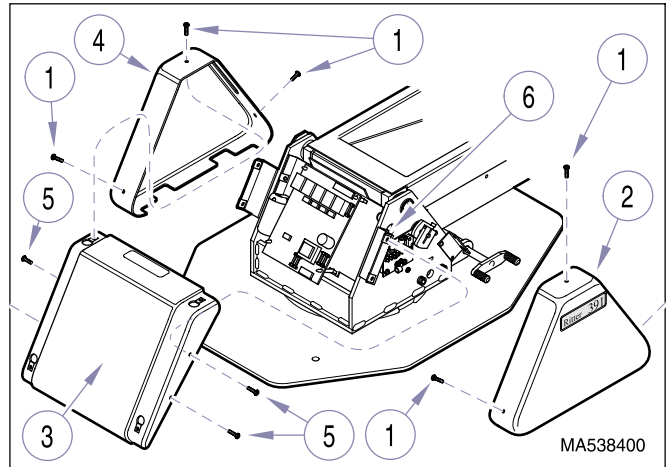
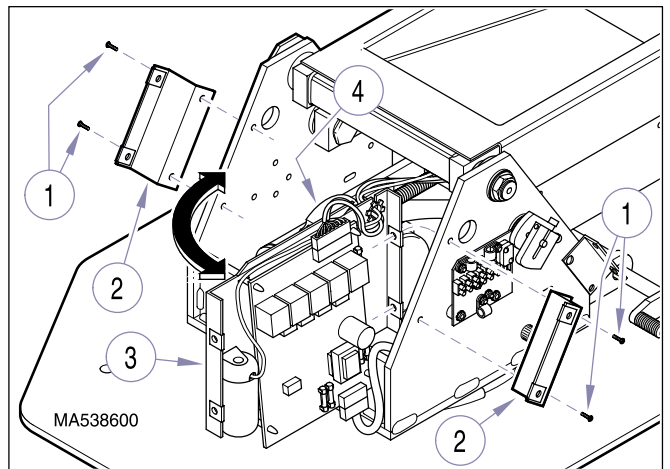
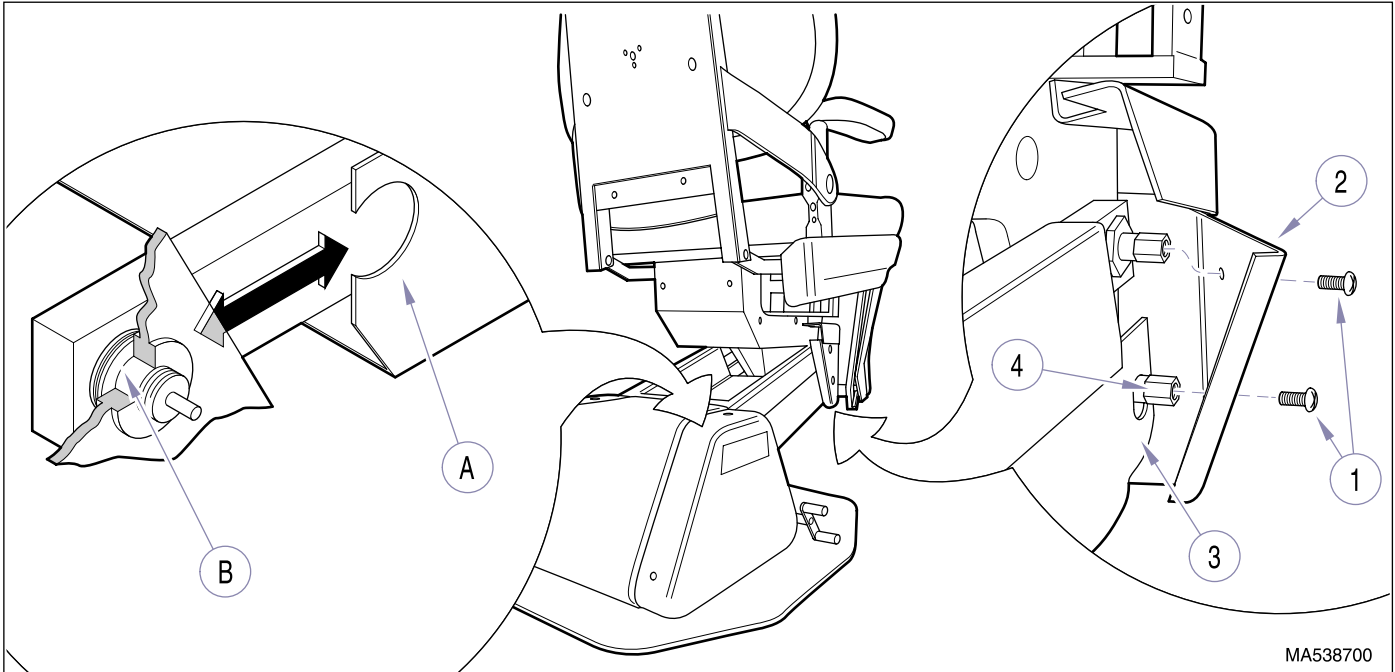
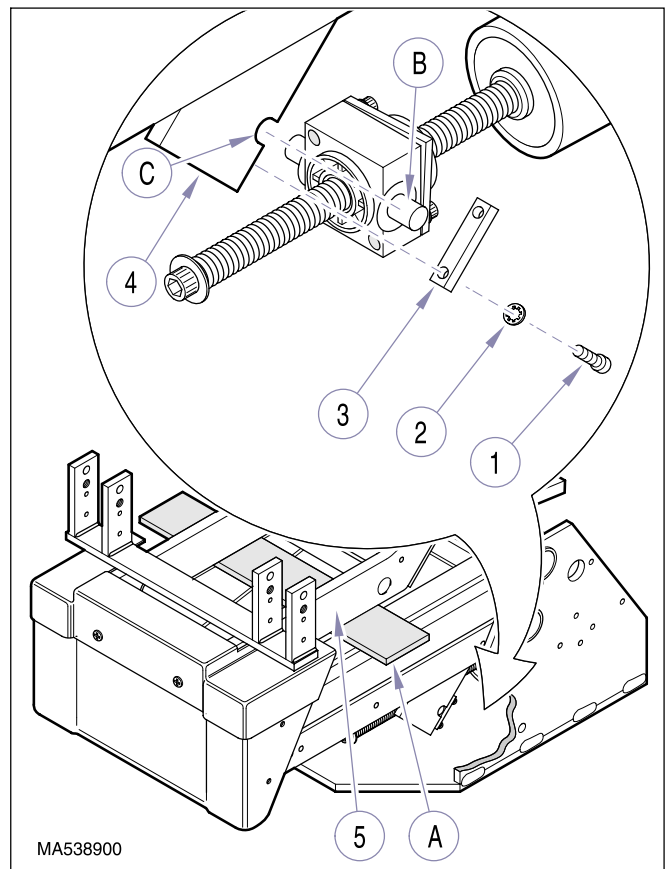

Figure 4-3. Base Covers Removal / Installation
Figure 4-4. Base Motor Access
Figure 4-5. Lift Arms Covers Removal / Installation
Figure 4-6. Base Motor Trunnion Removal / Installation
- (1) Unplug chair power cord from wall outlet receptacle.
- (2) Remove three screws (1, Figure 4-3) and R.H. base cover (2) from center base cover (3).
- (3) Remove three screws (1) and L.H. base cover (4) from center base cover (3).
- (4) Remove four screws (5) and center base cover (3) from two cover mounting brackets (6).
- (5) Remove four screws (1, Figure 4-4) and two cover mounting brackets (2) from mounting plate (3).
- (7) Remove four screws (1, Figure 4-5); two from each side of seat cover bottom (2).
- (8) Pull outward on one corner of seat cover bottom (2); then pull outward on corner of bottom lift arm cover (3) until it clears standoff (4). Repeat step for other corner and remove bottom lift arm cover (3) from chair.
(9) If base motor is operable:
- c. Remove four screws (1, Figure 4-6), lock-washers (2), and trunnion retainer plate (3) from lift arms assembly (4).
- b. Remove four screws (1, Figure 4-6), lock-washers (2), and trunnion retainer plate (3) from lift arms assembly (4).
- (7) Raise BASE UP function up while guiding trunnion arms (B, Figure 4-6) into trunnion slots (C). Make sure trunnion arms are fully seated in trunnion slots, before proceeding to the next step.
- (8) Raise BASE UP function all the way up and remove steel bar (A) or other type of supports.
- (9) Install trunnion retainer plate (3) on lift arms assembly (4) and secure with four lockwashers (2) and screws (1).
- (10) Pull outward on one corner of seat cover bottom cover (2, Figure 4-5); then install bottom lift arm cover (3) on standoff (4), making sure cut-out (A) is mounted on lift arms joint (B). Repeat step for other corner of bottom lift arm cover.
- (11) Install four screws (1); two on each side of seat cover bottom (2).
- (12) Position mounting plate (3, Figure 4-4) back in its normal position, making sure all wire harnesses are routed correctly.
- (13) Secure mounting plate (3) in place with two cover mounting brackets (2) and four screws (1).
- (14) Install center base cover (3, Figure 4-3) on two cover mounting brackets (6) and secure with four screws (5).
- (15) Install L.H. base cover (4) on center base cover (3) and secure with three screws (1).
- (16) Install R.H. base cover (2) on center base cover (3) and secure with three screws (1).
- (17) Plug chair power cord into wall outlet receptacle.